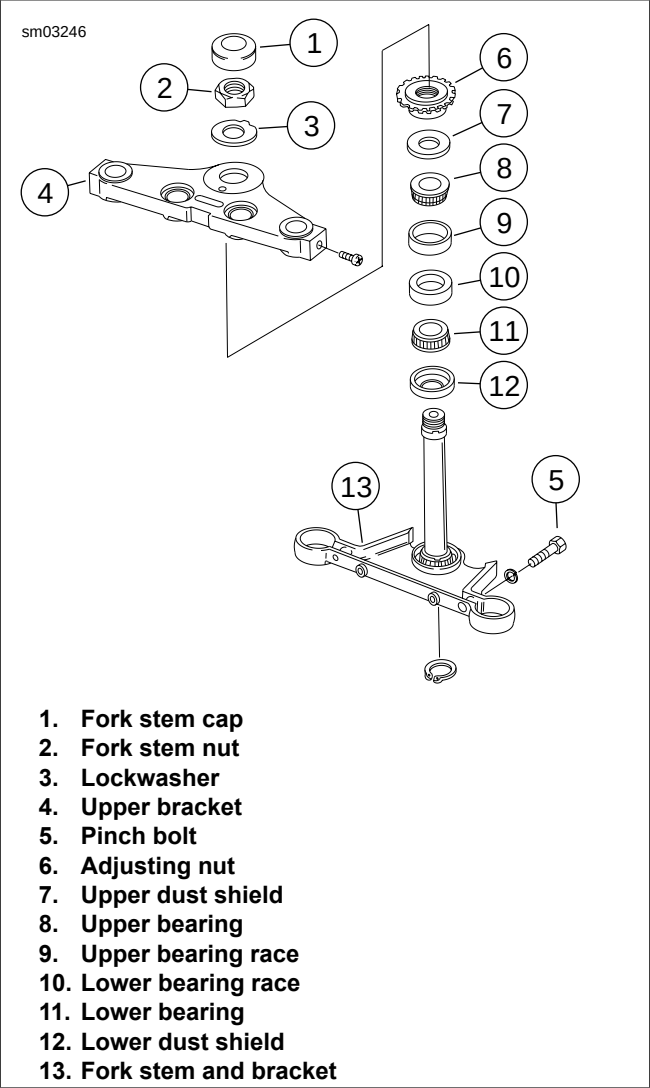
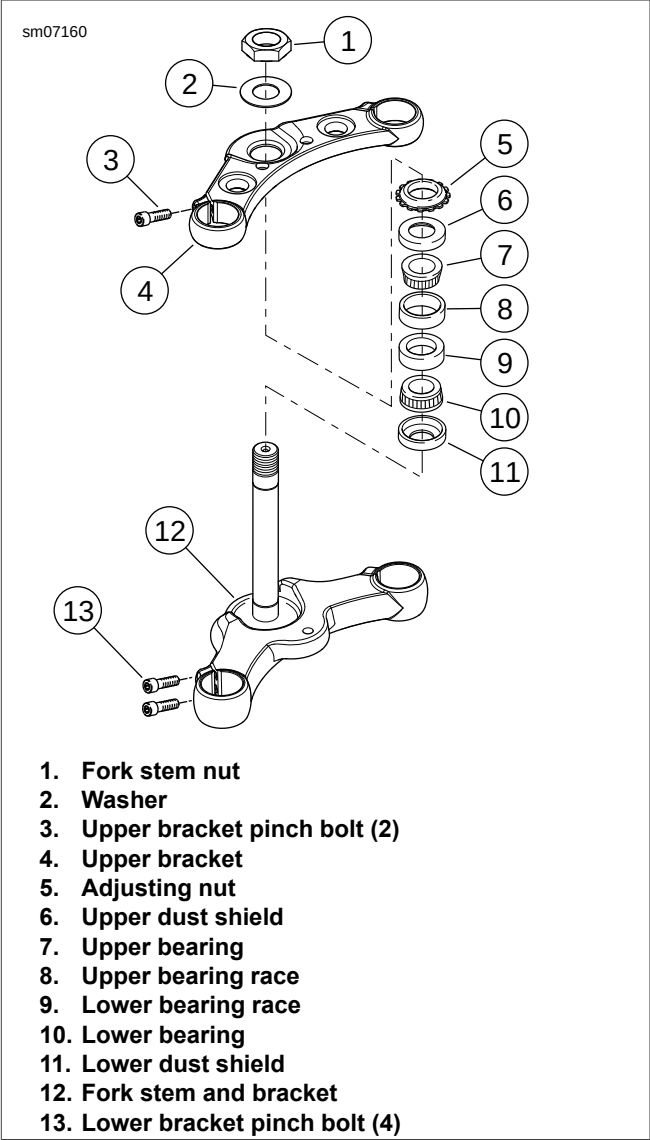

Figure 1-43. Steering Head: FXST
Figure 1-44. Steering Head: FXS
- See Figure 1-43. Loosen the upper fork stem bracket pinch bolts (5).
- Loosen the fork stem nut (2).
- Loosen the bearing adjustment nut (6) slightly.
- See Figure 1-44. Loosen the lower fork stem pinch bolts (13).
- Loosen the fork stem nut (1).
- Loosen the bearing adjustment nut (5) slightly.
- Tighten the bearing adjustment nut (6) slightly.
- Tighten the bearing adjustment nut (5) slightly.